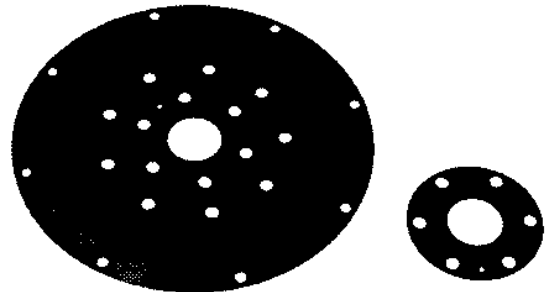

FIGURE 6-46
1. Inspect the drive discs for distorted or bent edges. (Figure 6-46) Inspect for worn mounting holes. Replace all defective discs as necessary.